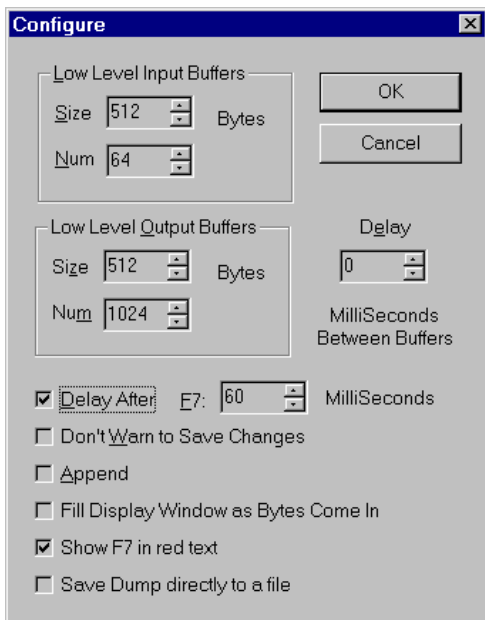

Figure 3 - Sample MIDI-OX Sysex Configuration
21. Load **“VP+xxx.syx”** where **xxx** represents the current version number. If you are using MIDI-OX make sure that there is a 60 ms delay after each F7 (one of the options in the Sysex, Configure dialog box in MIDI-OX, see Figure 3 for an example). This might not be absolutely necessary, depending on the type of MIDI device you are using.